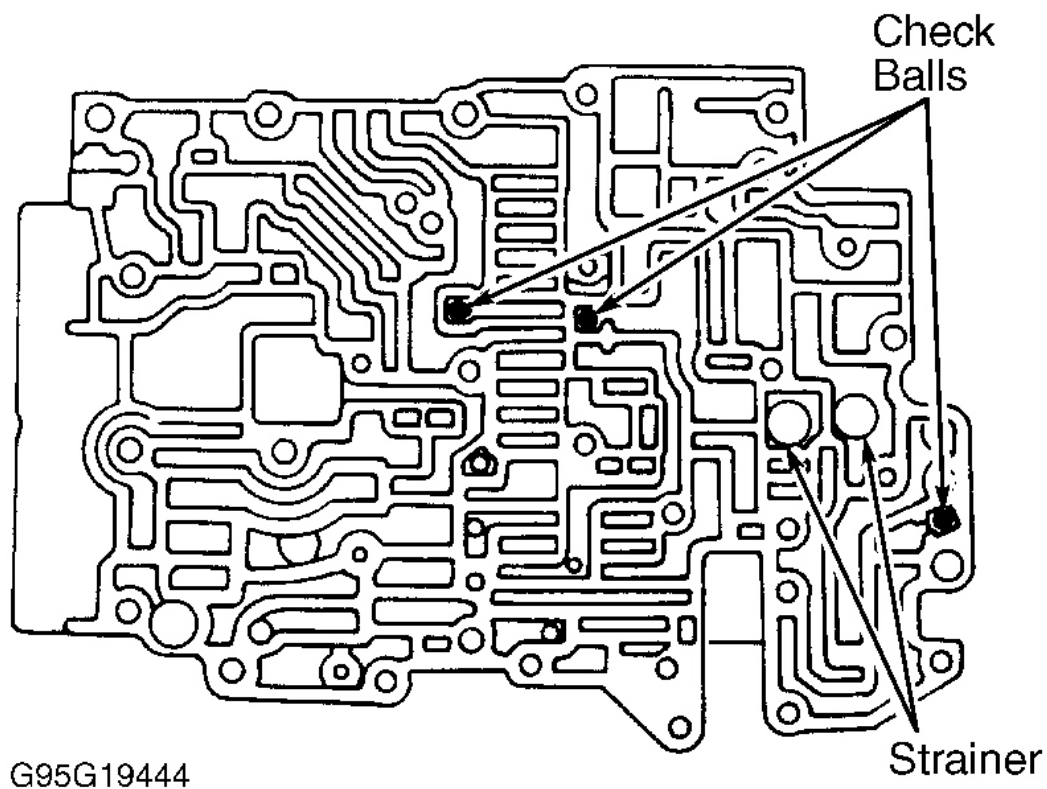

Fig. 41: Locating A-540E Lower Valve Body (Bottom) Check Balls
1. Position NEW No. 1 gasket, No. 1 separator plate and NEW No. 2 gasket on upper valve body. For gasket identification, see **Fig. 39** . Ensure check balls are correctly installed in lower valve body (bottom). See **Fig. 41** . Place upper valve body with No. 1 plate and gaskets on lower valve body.